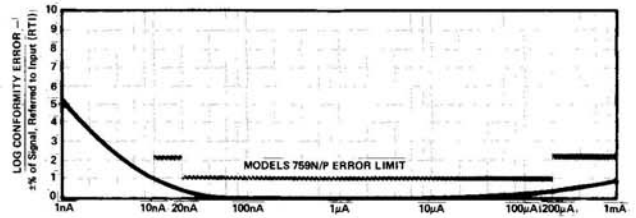

Figure 2. Log Conformity Error for Models 759N and 759P
**Log Conformity Error** – Log conformity in logarithmic devices is a specification similar to linearity in linear devices. Log conformity error is the difference between the value of the transfer equation and the actual value which occurs at the output of the log module, after scale factor, reference and offset errors are eliminated or taken into account. Figure 2 below illustrates the log conformity performance of model 759 over a 6 decade input range. The best linearity performance is obtained in the 5 decades from 10nA to 1mA. To obtain optimum performance, the input data should be scaled to this range.